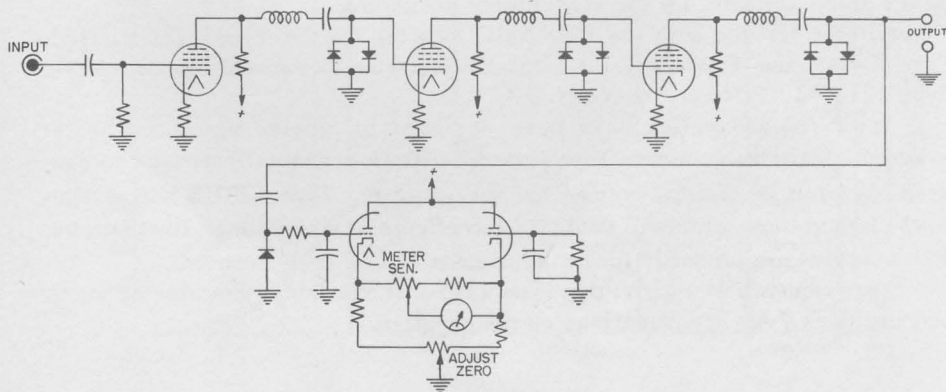

Figure 2. Elementary Schematic Diagram.
1.2.1 GENERAL. The Unit Null Detector is a three-stage, wide-band, pentode amplifier with a maximum gain of about 70 db. As shown in the elementary schematic diagram (Figure 2), a pair of germanium crystal diodes are connected back-to-back in the output of each stage to obtain a quasilogarithmic input-output characteristic. When the voltage on a pair of diodes is low the impedance is high and the gain of the associated stage is at maximum. Three of these stages are cascaded to produce the quasilogarithmic response over a wide